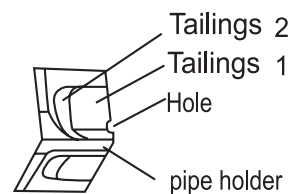

Fig.5
1. When routing the piping and wiring from the left or right side of the indoor unit, cut off the tailings from the pipe holder in necessary (shown in Fig.5).